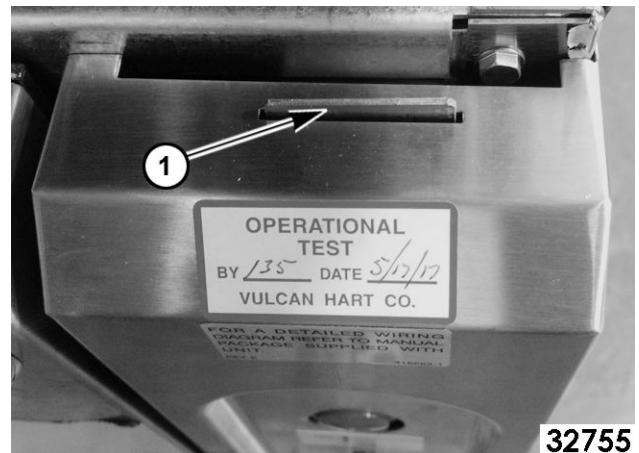

Fig. 21
5. Remove control panel by lifting up bottom and releasing from tab (1, Fig. 21) on top of panel.